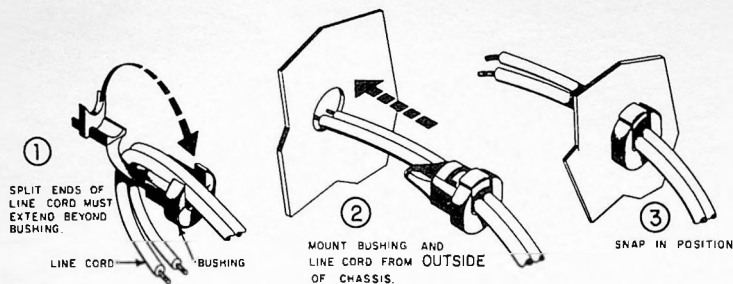

FIGURE 29. LINE CORD
- Line cord and bushing. The split ends of the line cord must extend 2" beyond the bushing. Fasten the line cord and bushing to the chassis as shown in Figure 29.